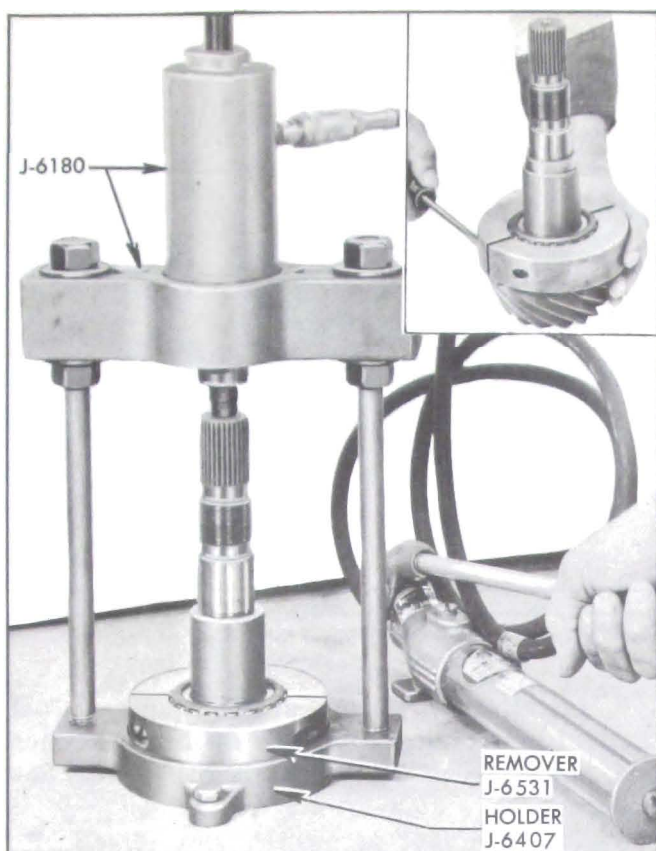

Figure 6-15—Removing Rear Pinion Bearing
6. If rear pinion bearing is to be replaced or pinion depth setting is to be changed, remove rear bearing from pinion shaft using Remover J-6531 and Holder J-6407 in a press or in a set-up using Ram and Yoke Assembly J-6180 as shown in Figure 6-15.